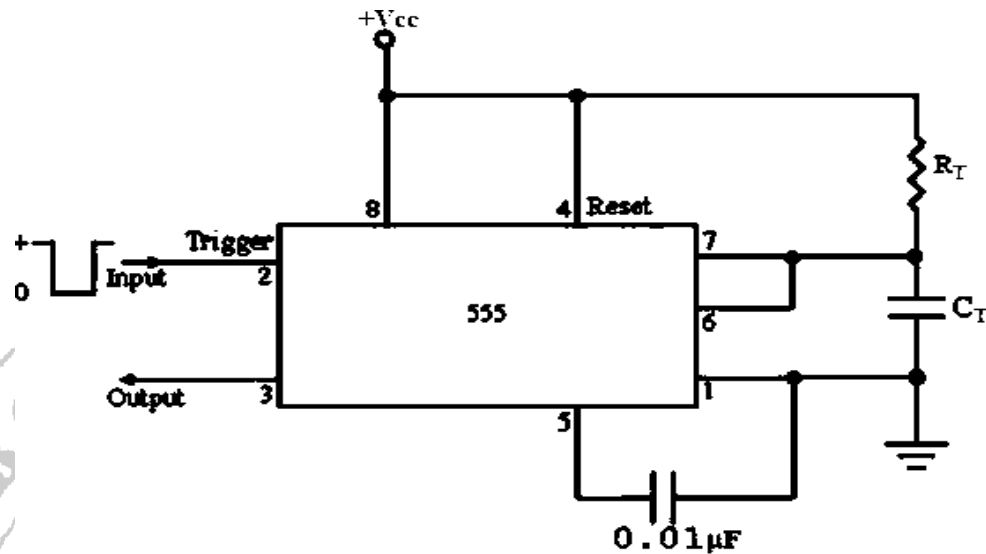

Fig 24.3: Circuit Diagram of Monostable multivibrator using IC 555
2. Connect the circuit as per the circuit diagram shown in fig 24.3.